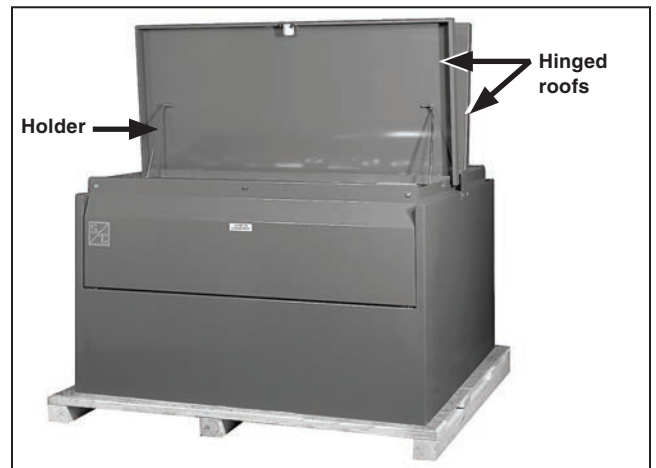

Figure 9. Open the enclosure and secure both roofs with the holders.
- STEP 2.** Lift the hinged roofs upward and secure them with the holders. See Figure 9.